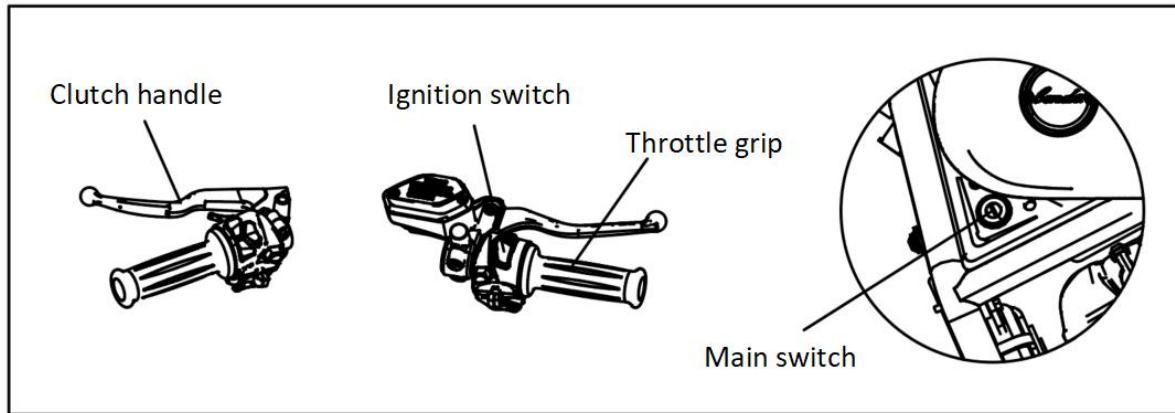

Figure 13
5.3. Motorcycle Start (Figure 13)